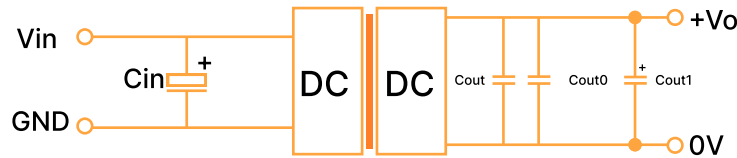
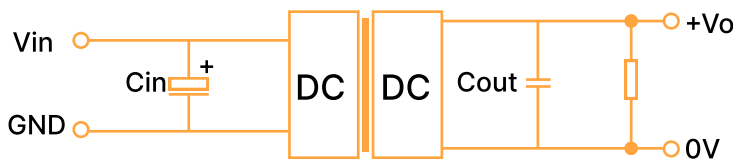

Figure 2
Figure 3: Typical Application circuit
Radiation disturbance	CISPR32/EN55032 CLASS B (The recommended circuit is shown in Figure 2)
The general performance of all DC/DC converters of this series is tested in accordance with the test circuit recommended in Figure 2, Figure 3 is used for ripple noise test.
2. EMC requirements: For situations with high EMC requirements, a typical EMC recommended circuit is shown in Figure 2.